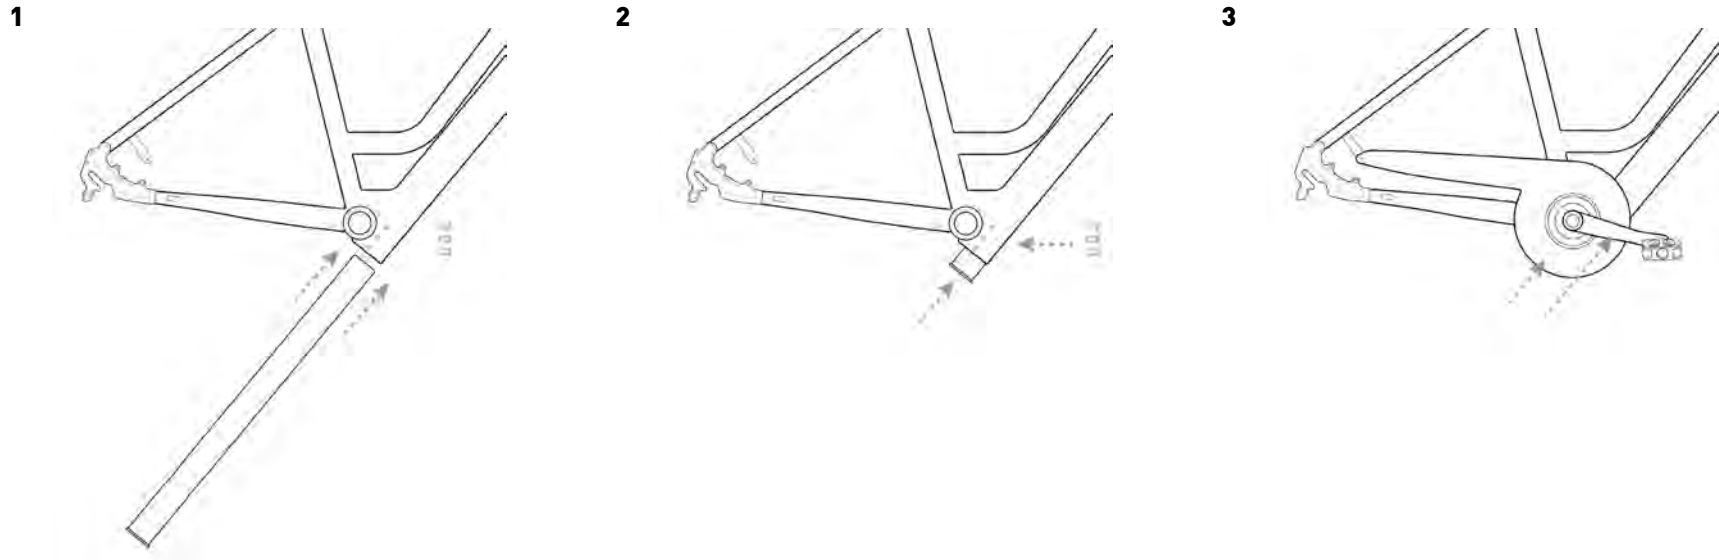

FIG. 8
1. Align the battery to the oblique pipe of the frame (REF.1 - Figure 8);
2. Insert the battery inside the frame until the three holes on the right side of the frame align with those of the battery and tighten the three fixing screws (REF.2 - Figure 8);
3. Assemble the chain cover crankcase and the previously disassembled cranks. (REF.3 - Figure 8);